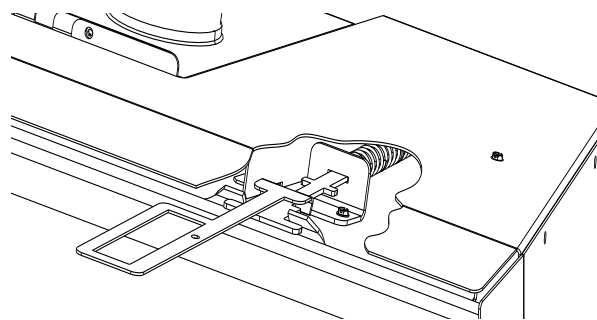

Figure 1
4. Remove the Latch Tool from the shipping pallet. Use it to disengage the two spring latches from the glass frame as shown in fig. 1. Engage the tool prong with the Latch and pull the latch hook forward and up to disengage it from the glass frame slot. Pivot the top of the frame forward and lift to disengage it from the glass frame channel at the bottom of the firebox. Set the glass assembly well out of the way on a clean and secure surface.